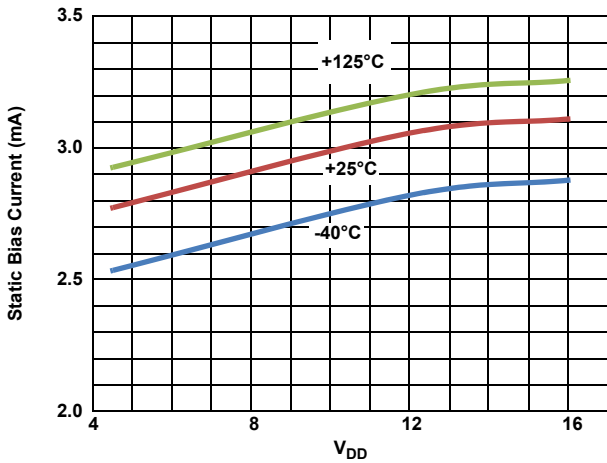

Figure 11. I_{DD} vs V_{DD} (STATIC)
- $I_{DD}(\text{freq})$ = Bias current at the switching frequency (see Figure 11)